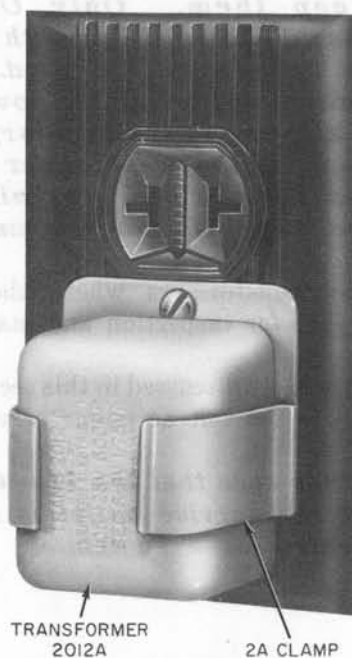

Fig. 1—2A Clamp
**Danger:** For safety, securely attach retaining clamp to ac outlet using outlet cover screw **BEFORE** attempting to install 2012-type transformer. See Fig. 1. When removing 2012-type transformer always unplug unit completely from outlet **BEFORE** attempting to remove the retaining clamp. This will prevent the possibility of a loosened retainer clamp or metallic outlet cover making contact with the ac prongs of the 2012-type transformer when partially withdrawn from outlet. Do not use 2A
- 2.01 A 2A clamp may be used to secure the 2012-type transformer to a standard electrical service outlet (Fig. 1) in those locations where the transformer is subject to being accidentally dislodged from the receptacle.